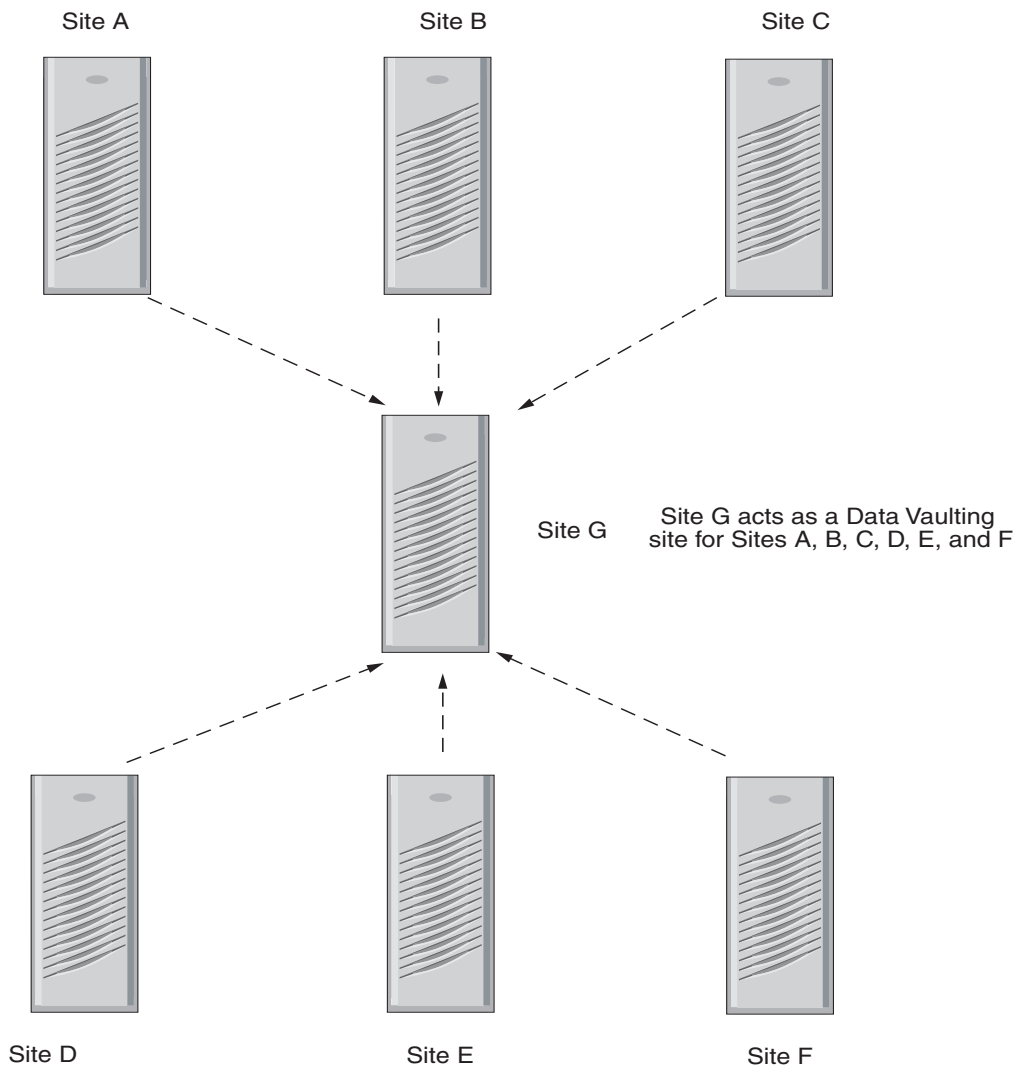

Figure 1-3 Data Vaulting Solution
In Figure 1-3, one recovery site (G) provides a data vaulting solution for six production sites (A through F).